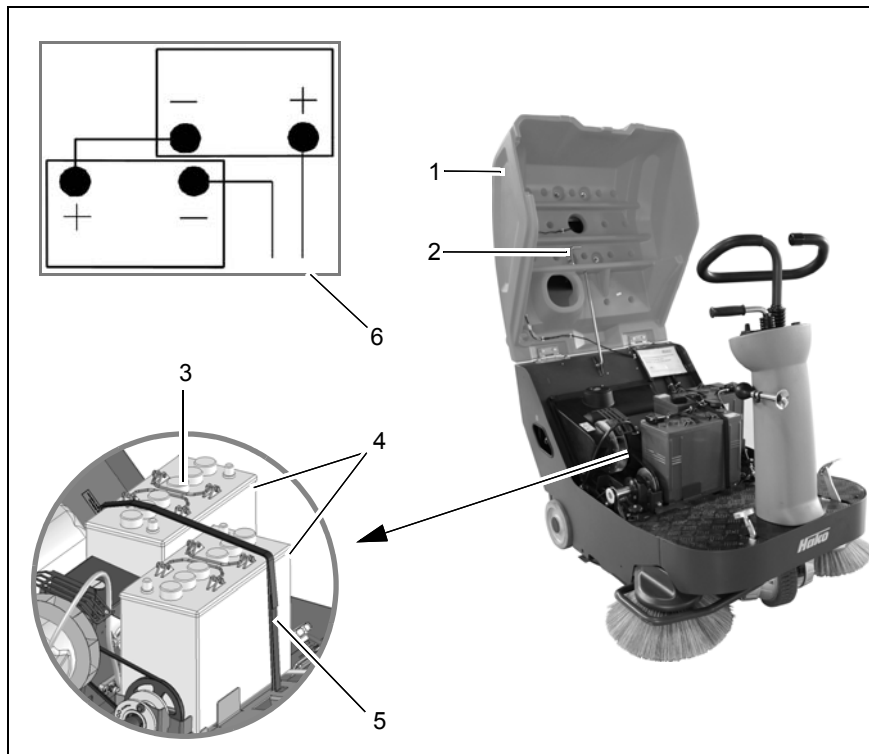

Fig.17
2. Open the seat console (Fig. 17/1) and secure with the safety support (Fig. 17/2).
3. Disconnect the connection cables to the batteries (Fig. 17/4).
4. Loosen the retaining strap (Fig. 17/5).
5. Remove the batteries from the vehicle using the grab handle (Fig. 17/3).
3. Pick up the batteries (Fig. 17/4) using the grab handle (Fig. 17/3) and insert them in the vehicle.
4. Secure the batteries in place with the retaining strap (Fig. 17/5).
5. Connect the batteries in accordance with the connection diagram (Fig. 17/6).
6. Unlock the safety support (Fig. 17/2) and close the seat console (Fig. 17/1).